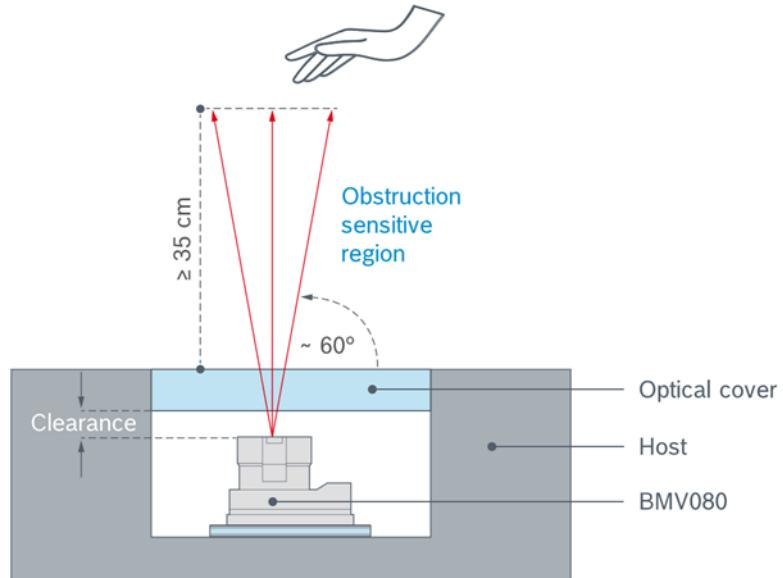

Figure 14: BMV080 integrated in a host system
- Objects in front of the sensor (obstruction): reflections caused by objects in the optical path can influence the sensor functionality. The BMV080 software detects these events as obstructions. While occasional obstruction (e.g., by waving hands) is filtered out in the BMV080 software and does not influence the sensor performance, static obstruction (i.e., a fixed object in the obstruction-sensitive region, see Figure 14) will influence the sensor functionality. When the BMV080 software detects a static obstruction, the PM2.5 calculation is not available, and an obstruction flag is returned. Therefore, static obstructions caused by the integration into the host shall be avoided.